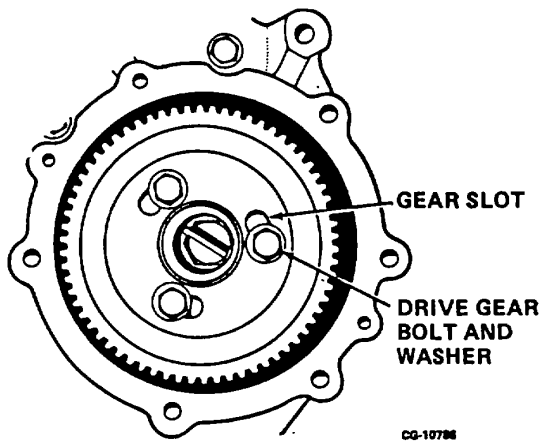

Figure 22. MW Injection Pump Drive Gear
2. Loosen injection pump drive gear bolts and washers to injection pump hub (Figure 22).